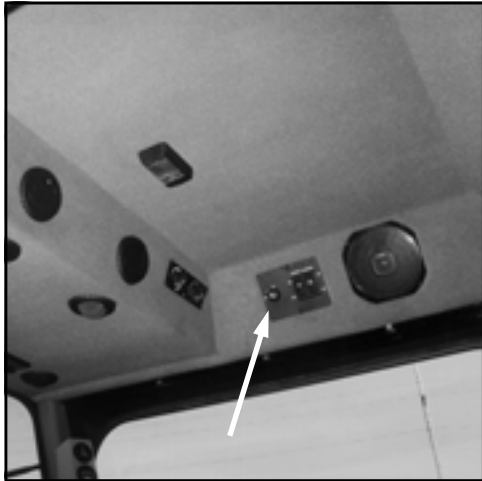

FIG 5.60
**HIGHWAY LIGHTS** - Mounted in the center of each front tank shield (two total) above the tires is a halogen driving lamp (fig. 5.62). Use these lights when traveling on a public road at night. Turn them on by rotating the light switch (fig. 5.60) clockwise to the first "ON" position (fig. 5.61B).